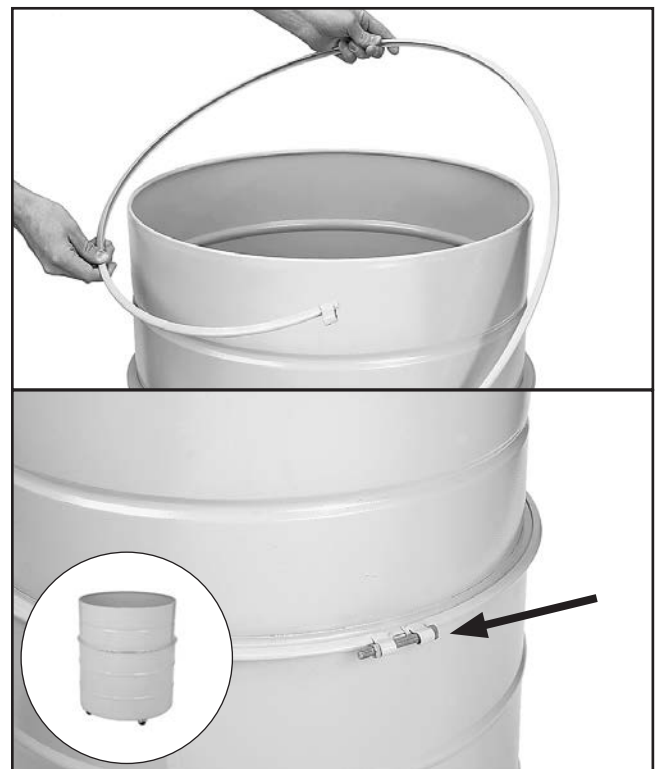

Figure 24. Installing metal clamp around collection drum.
25. Connect upper and lower collection drums with included metal clamp and provided hex bolt and nut, as shown in **Figure 24**.